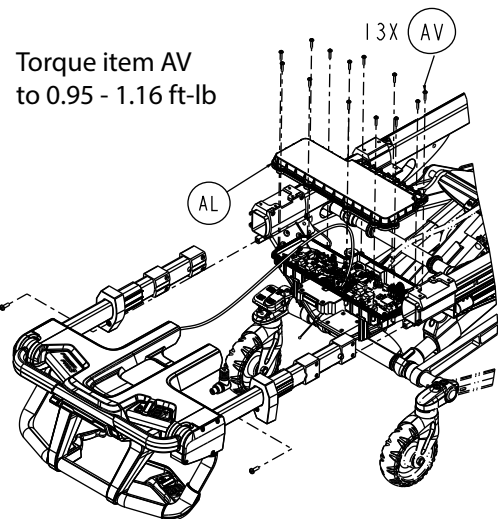

Figure 85 – Remove the FEIB enclosure screws
9. Using a T20 Torx driver, remove the thirteen round washer head tapping screws (AV) that secure the top FEIB enclosure (AL) to the bottom FEIB enclosure (Figure 85). Save the screws.